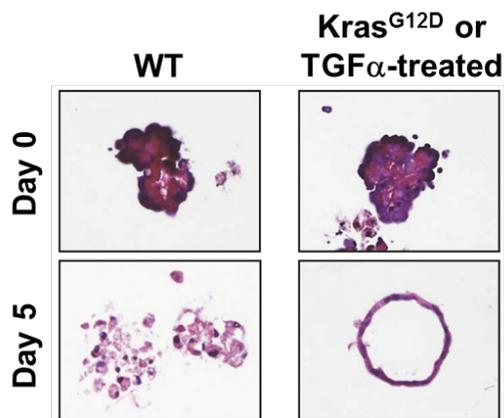

Figure 2. Pancreatic acinar cells in 3D-culture
23. Change the medium on days 1 and 3. For *Kras*G12D-expressing acinar cells, over 90% of ductal cysts should form by day 5 (see Figure 2). Similarly, wild-type acinar cells provided 50 ng/ml TGF $\alpha$  following plating will form ductal cysts by day 5, with a conversion rate of about 70%-80% (see Figure 2) (Shi *et al.*, 2013).